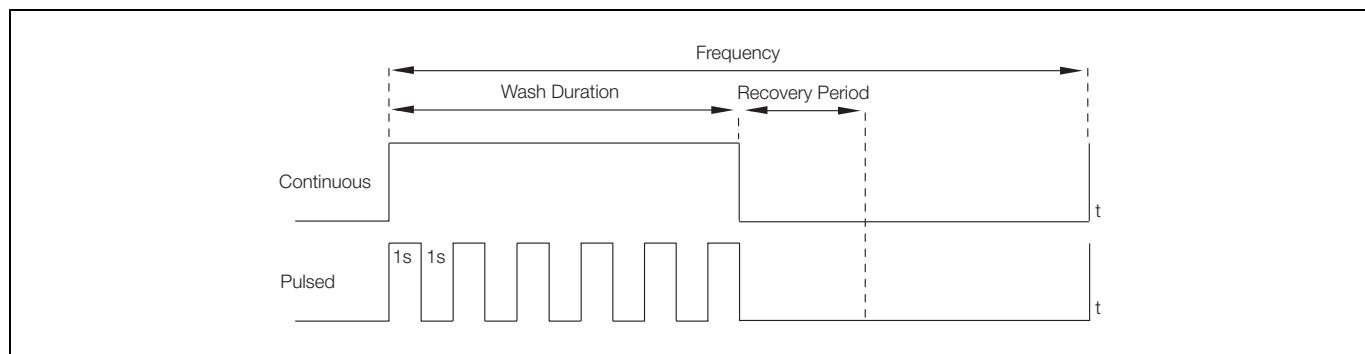

Fig. 5.1 Pulsed and Continuous Wash Cycles
- Pulsed** – the relay is switched on and off every second for the duration of the wash, – see Fig. 5.1.